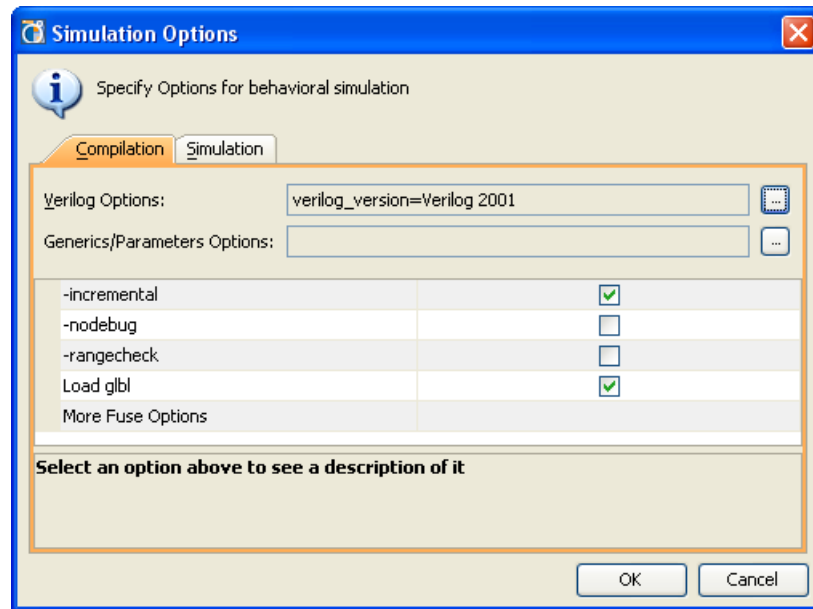
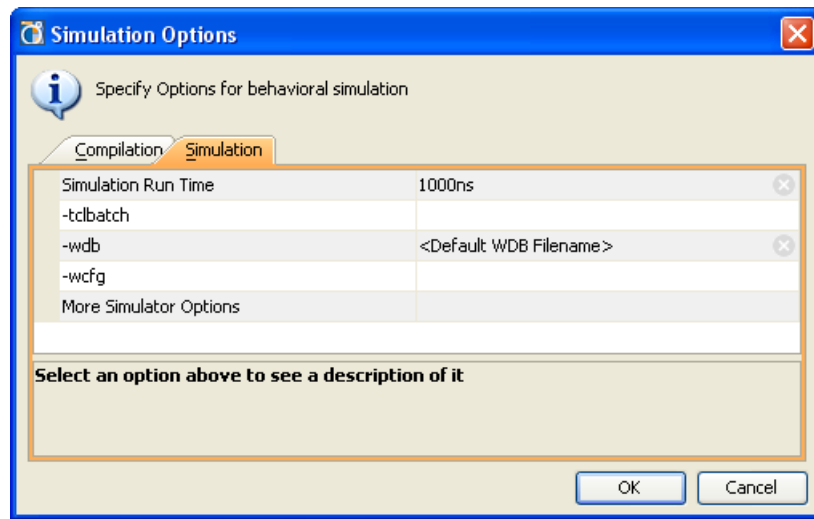

Figure 5-10: Simulation Options Dialog Box
Figure 5-11: Behavioral Simulation Language Options
- **Options** — Opens the Simulation Options dialog box as shown in Figure 5-10, page 200 and Figure 5-11, page 201.
The **Compilation Option** tab of the Simulation Options dialog box contains the options to control the execution of fuse and ISim, as shown in Figure 5-10, page 200.
Figure 5-11 shows the **Simulation** tab of the Simulation Options dialog box.